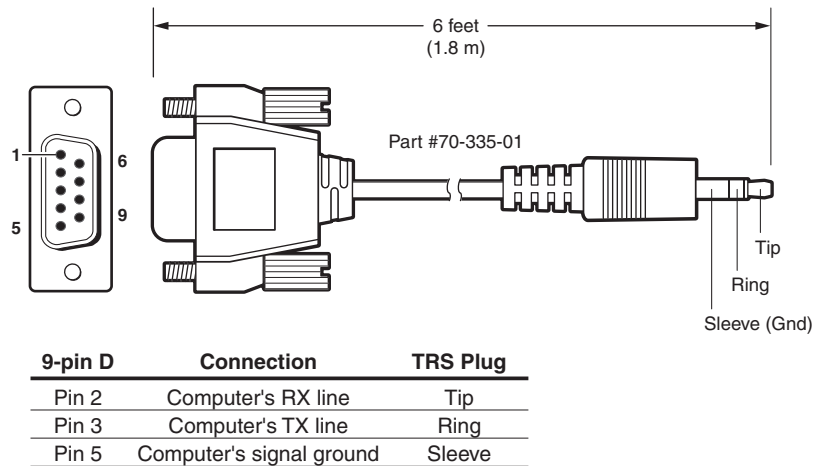

Figure 2-24 — Optional 9-pin TRS RS-232 cable
- ⑬ **Configuration port** — This 2.5 mm mini stereo jack serves the same serial communications function as the rear panel Remote port, but it is easier to access than the rear port after the matrix switcher has been installed and cabled. The optional 9-pin D to 2.5 mm mini jack TRS RS-232 cable, part #70-335-01 (figure 2-24), can be used for this connection.